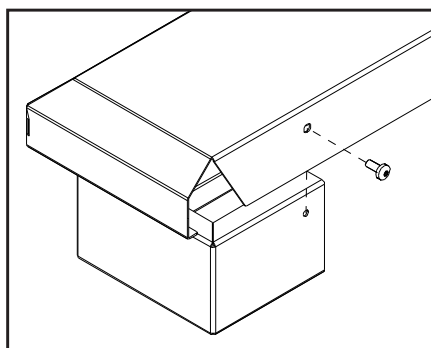

Figure 38: Installing Base Shelf onto Riser.
3. If installing with riser(s) the Base Shelf is to be fastened to the riser(s) with one T-20 screw at each end of the back (see Figure 38).